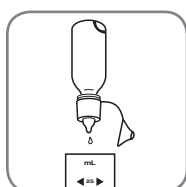

Figure 1
1. Add 10 drops of neutralizer solution to the sample cup. **See Fig 1.**